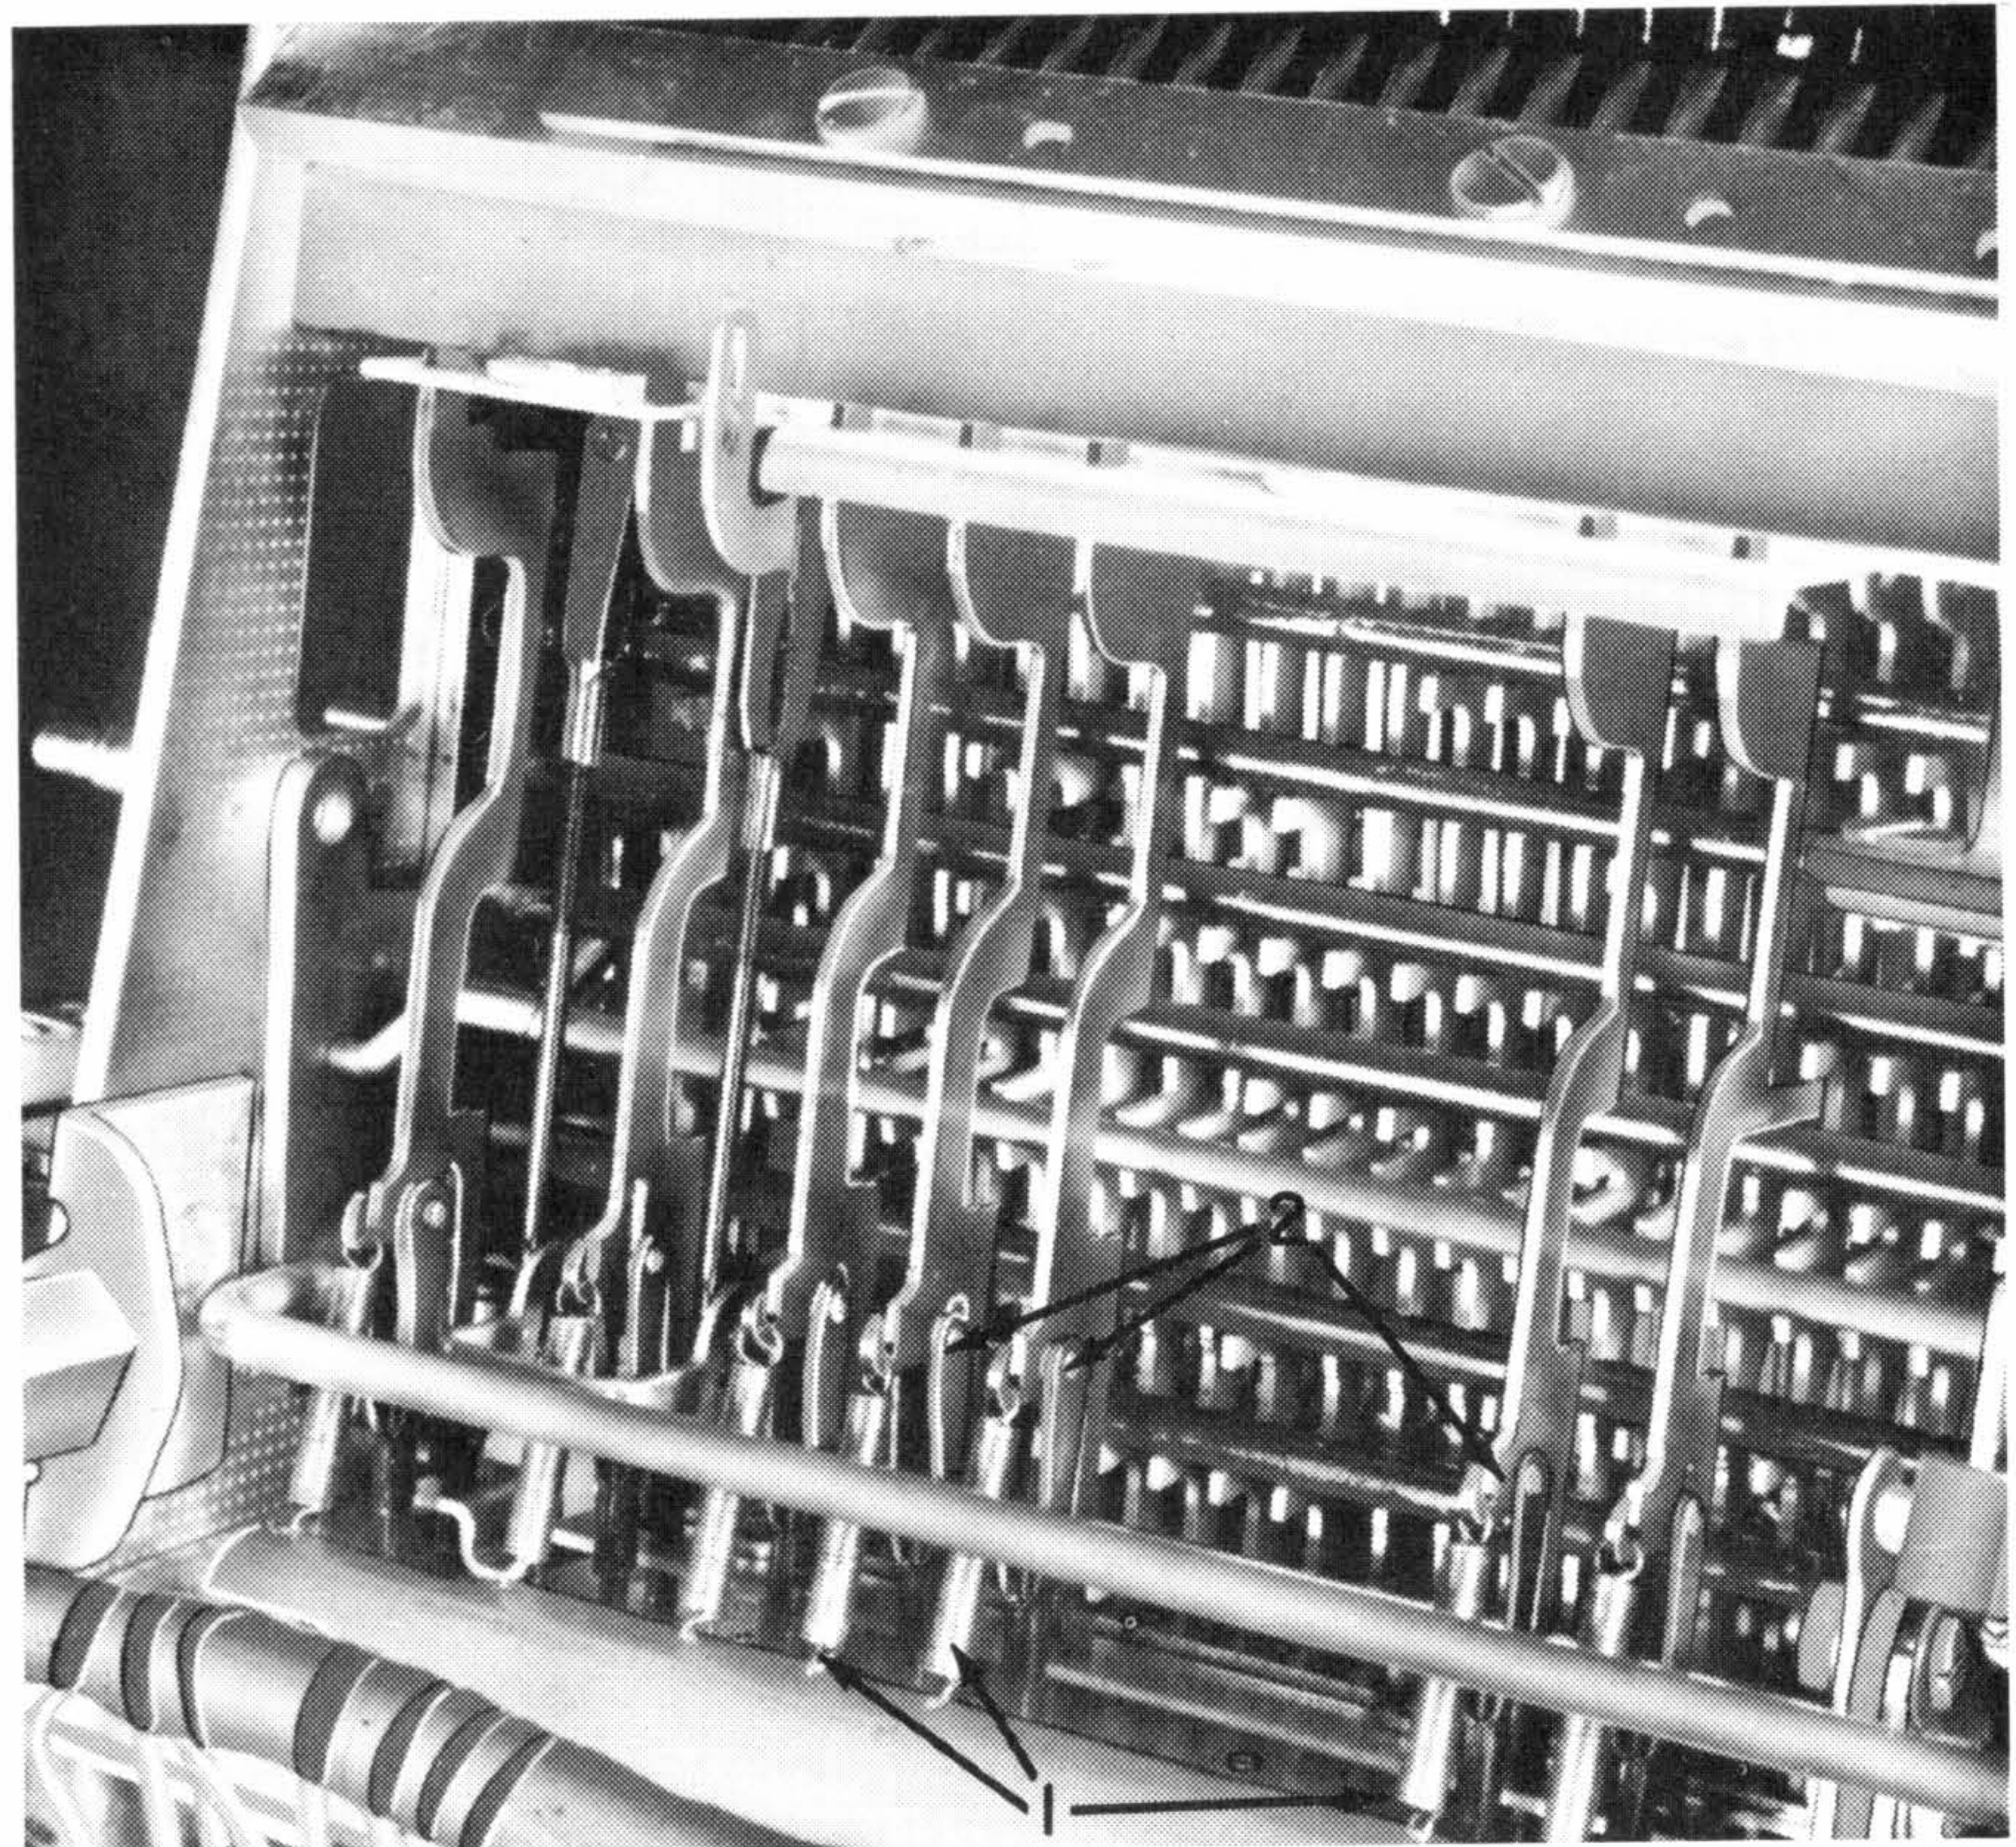

Figure 20. Rotate Selection Differential Removal
4. Disconnect the clevises and remove them from the links (#2, Figure 20).
5. Remove the springs from the rotate interposers (#1, Figure 20).